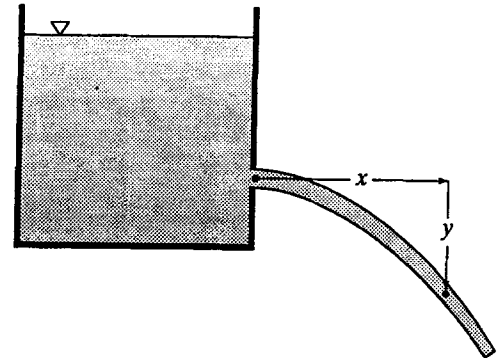

Figure X5.15.1
5.15.1 A jet issues horizontally from an orifice in the vertical wall of a large tank (Fig. X5.15.1). Neglecting air resistance, determine the velocity of the jet at the orifice for the following variety of trajectories: (a)  $x = 1.0 \text{ m}$ ,  $y = 1.0 \text{ m}$ ; (b)  $x = 2.0 \text{ m}$ ,  $y = 2.0 \text{ m}$ ; (c)  $x = 3.0 \text{ m}$ ,  $y = 3.0 \text{ m}$ ; (d)  $x = 4.0 \text{ m}$ ,  $y = 4.0 \text{ m}$ . Express the answers in m/s.